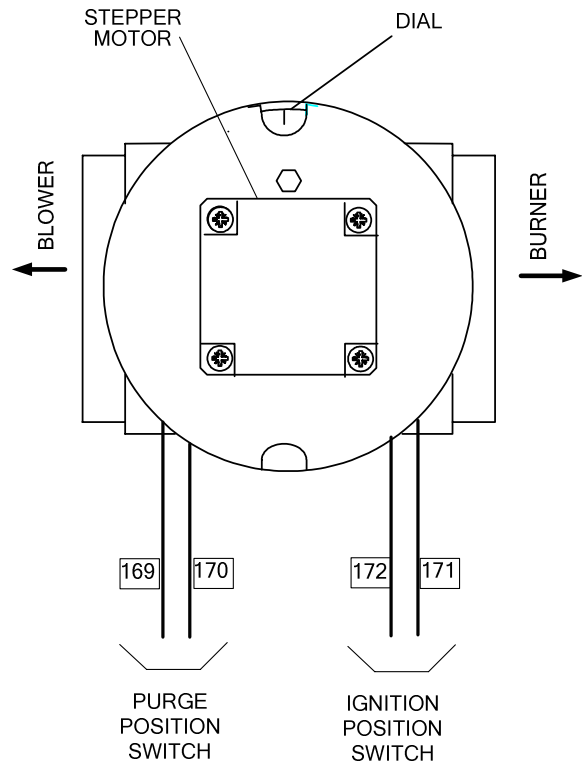

Figure 6.8
3. Remove one of the two wires from the purge switch (Fig. 6.8) and start the unit.
3. Remove one of the two wires from the ignition switch (Fig. 6.8) and start the unit.